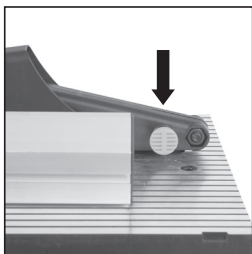

FIG. 19
- Pull out the sprung loaded locating pin at the rear of the upper guard (**Fig. 19**)